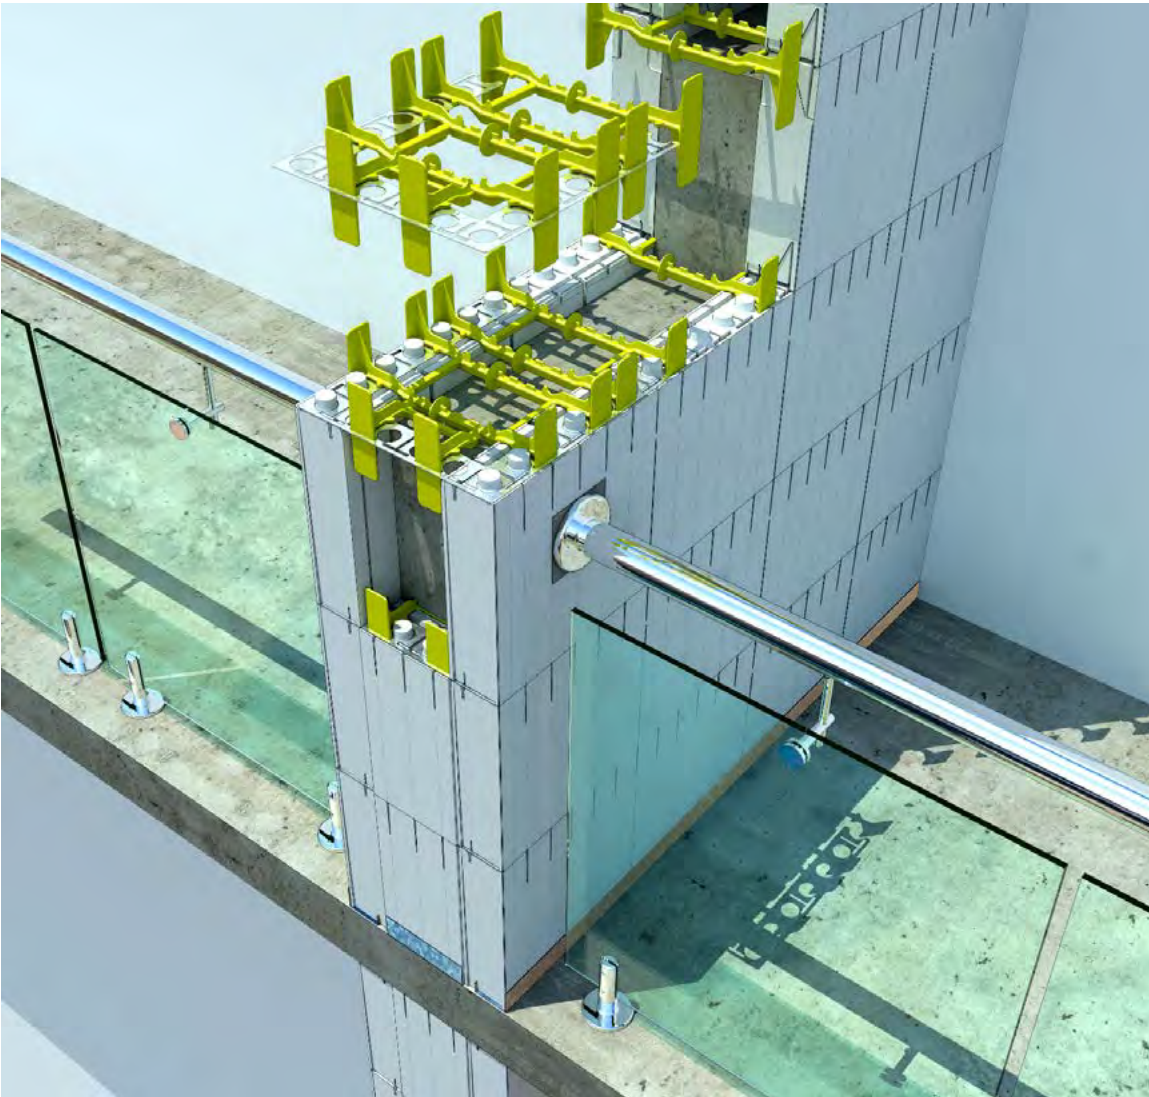

Figure 56: Bulkheads Formed with Quad-Lock End Cap Brackets
- Cut scrap panel pieces to the exact cavity size and insert them into the cavity at the end of the wall. Use overlapping Metal End Cap Brackets to lock the panels into place, then insert Full ties and tie flanges as shown in Figure 56 below.